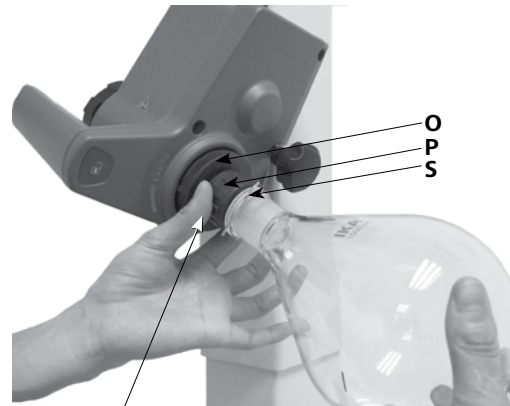

Fig. 15b
- Turn the plastic nut (**P**) with the clip (**S**) counterclockwise until the clip can be put on the flange. (Fig. 15b)